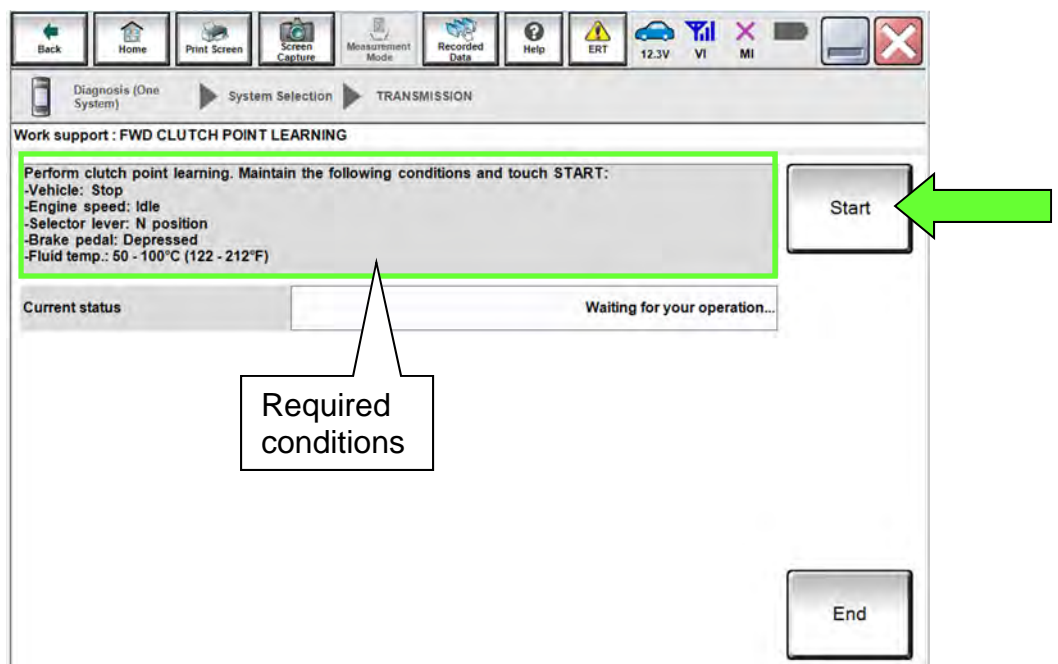

Figure 201
- Confirm that all of the required conditions indicated in Figure 201 are being met.
194. While maintaining all conditions shown in Figure 201 and the “Current status” indicates “EXECUTING”, shift the CVT into **D** and then wait until the “Current status” indicates “COMPLETED”.